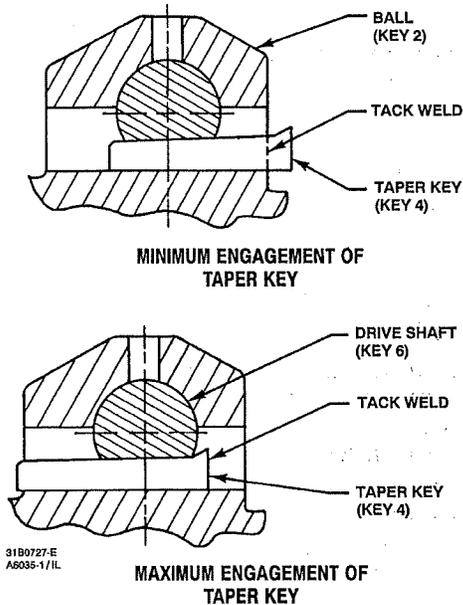

Figure 14. Taper Key Installation
1. A taper key (key 4, figures 14, 24, 25 and 31) is used to connect the ball and drive shaft in 3- through 12-inch valves.
3. Working from the small end of the groove pin (key 7), use a pin punch to drive the groove pin out of the ball ear and follower shaft.
4. Locate the small end of the taper key (key 4, see figures 14, 24, 25 and 31). Using a pin punch on the smaller end of the taper key, drive it out of the ball (key 2) and drive shaft (key 6). Note: driving the taper key in the wrong direction will tighten it.
5. Pull the drive shaft (key 6) out of the actuator side of the valve body.
a. Unscrew the pipe plug (key 25) if one is installed. Use a punch to drive the follower shaft (key 9) into the center of the ball.
b. If a pipe plug is not installed, use a piece of continuous threaded rod as a removal rod when moving the follower shaft (key 9) into the center of the ball. Refer to the table 3 for a description of the size threaded rod needed. The length of the rod should allow easy working room from the valve body.
7. Carefully remove the follower shaft and ball (key 2) from the valve body.
- a. Insert the drive shaft into the valve body bearing (key 10), and into the ball ear. Align the hole in the drive shaft with the holes in the ball.
- b. Insert the taper key into the ball and drive shaft as shown in figure 14.
Current standard construction materials for all 3- through 12-inch valves require the taper key (key 4, figure 14) to be tack welded in place **after properly seating**, using the following procedure. Use standard welding preparations when preparing parts for reassembly.
6. Install the drive shaft (key 6) into the valve body through the ball and into the lower bearing.
7. Insert the taper key (key 4) into ball and drive shaft (keys 2 and 6) as shown in figure 14. The taper key inserts, with the flat side of the key, facing the drive shaft (key 6).
6. Locate the small end of the taper key (key 4, figure 14). Using a pin punch on the smaller end of the taper key, drive it out of the ball (key 2) and drive shaft (key 6). Note: driving the taper key in the wrong direction will tighten it.